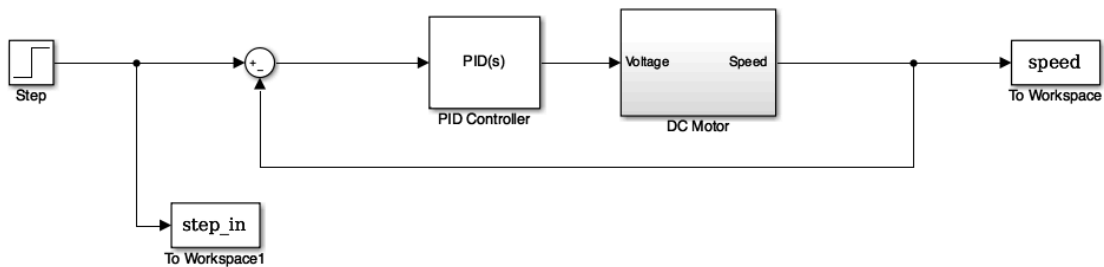

Figure 1: Simulink Model for Simulation 4.
2. Modify your Simulink file to match what is shown in Figure 1. In the Step block, set Step Time to 0. Both To Workspace blocks should output data as an array.